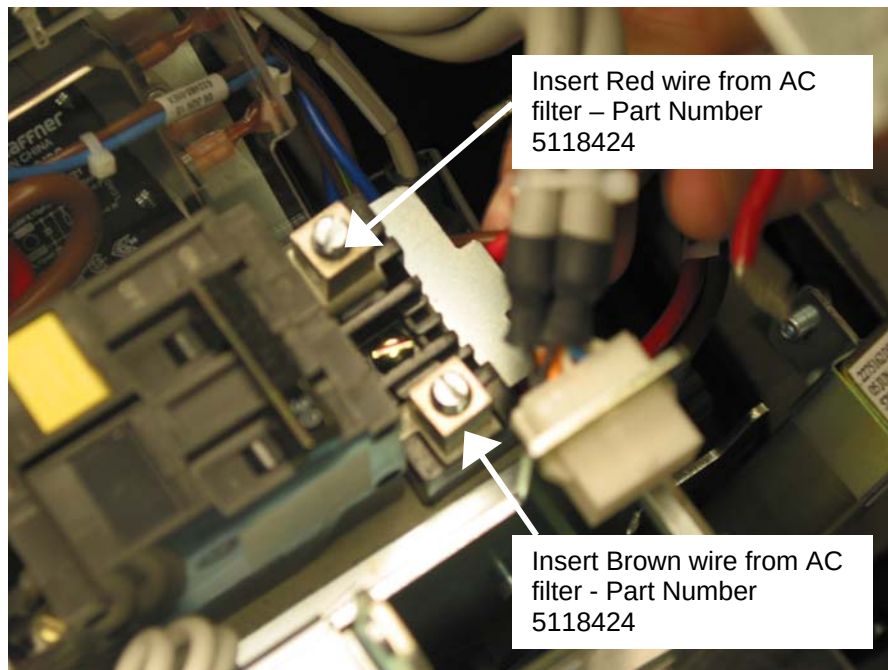

Figure 2 Wires from AC Filter
- e) Insert wires from AC filter to the GFI breaker on the sliping side (see Figure 2) and tighten screws. Wires are labeled as 5118424.